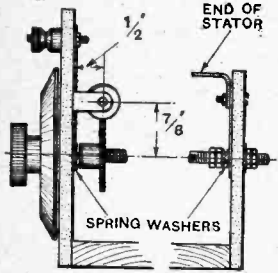

Fig. 5.—Arrangement of the slow motion device which turns the rotor.
**Fig. 5.—THE RADIO FREQUENCY EQUIPMENT.** (A) Aerial terminal; (B) Counterpoise terminal; (C) Aerial clip; (D) Closed circuit clip; (E) Anode tap; (F) Aerial coil; (G) Closed circuit coil; (H) Grid coil; (I) Oscillating valve filament resistance; (J) H.F. choke; (K) Closed circuit condenser; (L) Milliammeter, 0-100 mA. (Weston or Sifam).
to take the rotor spindles through the  $\frac{3}{16}$  in. holes. The position of the rotor is adjusted by means of locknuts and spring washers, shown in detail in Fig. 5. The spring washers are on the inside, and make contact with two  $\frac{3}{8}$  in. wide strips of brass. One strip connects with a terminal in the top hole of the longer support, and the other connects with a 4 B.A. bolt to which is attached the top end of the stator coil. The remaining end of the stator is attached
Those who prefer can use one of the geared dials which are now on the market, as the use of some fine turning device is essential. The gearing arrangement adopted for the variometer under description gives a ratio of 50-1, and has been found to be very satisfactory. It is sketched in Fig. 5.